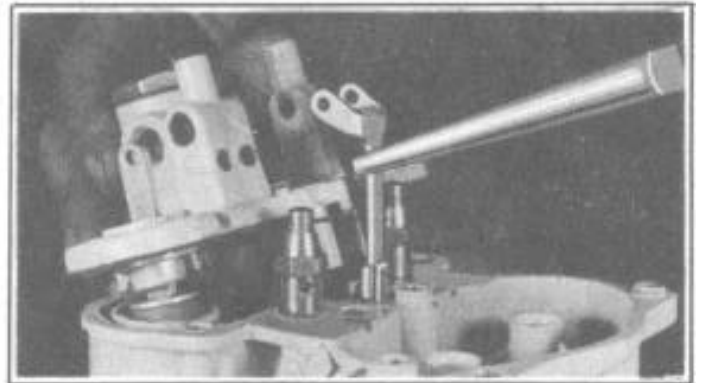

FIGURE 73
15. Raise vacuum piston and link assembly and install bowl cover with parts attached, Figure 73. **NOTE: Use new gasket and tighten screws evenly.**